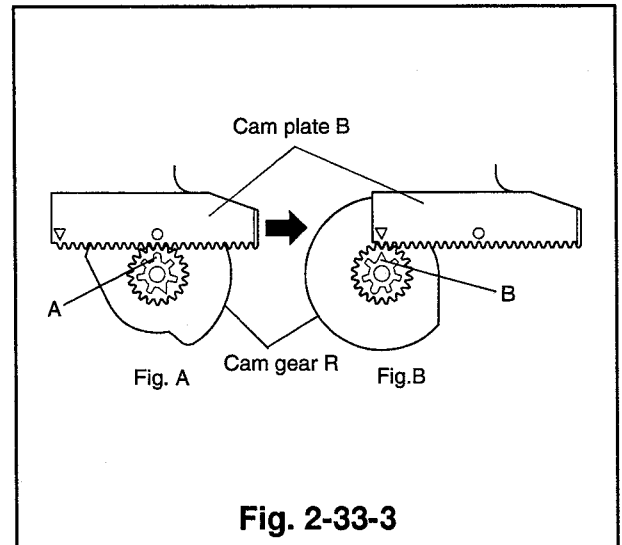

Fig. 2-33-3
- ④ While keeping the rear section of cam plate B raised, align the cam plate B and the cam gear R so that the ○ mark on the cam plate B aligns with the part A on the cam gear R as shown in Fig. 2-33-3 (Fig. A). Still keeping the rear of cam plate B raised, slide it to the right until the △ mark on cam plate B and aligns with the part B on the cam gear R, refer Fig. 2-33-3 (Fig. B). From this position lower the rear of the cam plate B unto the already aligned loading gears TU and SP, refer 2 above. Shift the sub off lever and the main brake TU in the directions shown by the arrows to install them. (Refer to Fig. 2-33-1)
- ⑤ Fix the roller B to the shaft of the loading arm (TU) and secure it with the new cut washer.
- ⑥ Install the plate J and secure it with the two screws (a) and (b).
- ⑦ Install the main gear J. (Refer to Para. 2-30 for the installation method.)
- ⑧ Install the loading motor assembly (which holds the motor holder). (Refer to Para. 2-29 for the installation method.)
- ⑨ Install the belt pulley. (Refer to Para. 2-28 for the installation method.)
- ⑩ Fasten the reel belt. (Refer to Para. 2-28 for the installation method.)